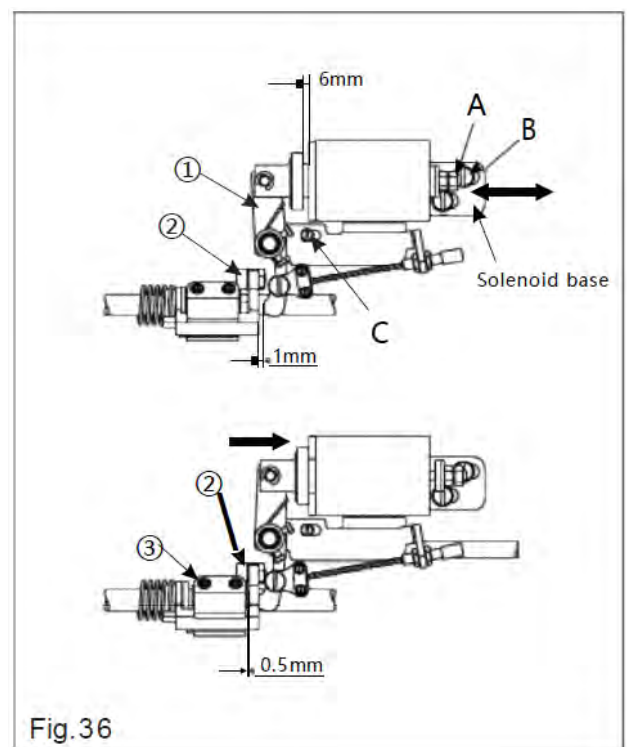

Fig.36
- 1) Install the shaft ① on the machine bed first.
- a) Slightly turn the shaft ①, and install the positioning block ② as illustrated.
4. Installing the trimming solenoid (Fig.36)